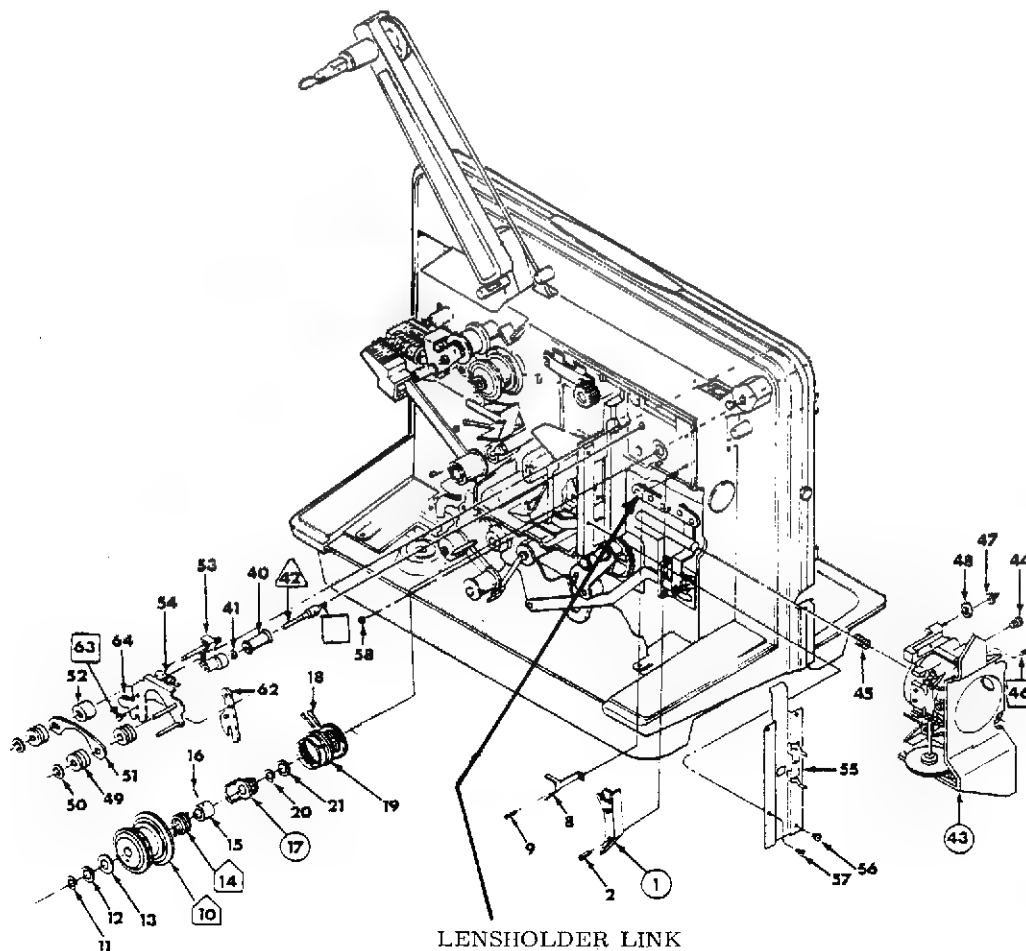

Figure 3-1. REMOVAL AND REASSEMBLY OF LENSHOLDER
1. Remove the Film Stripper (8), the "C" Ring (11) and the Front Sprocket (10). (Figure 3-1).
2. Loosen Screw (63) enough to allow the Lobster Claw (62) to slip off the Guide Arm Roller (47).
3. Move the Master Control Lever to the LOAD position and remove Screw (44). (This Screw is accessible from the back of the projector below the front Worm Gear and to the right of the motor start capacitor.)
4. Slide the Lensholder (43) off its mounting rod taking care not to lose the Spring (45) and the Guide Arm Roller (47).